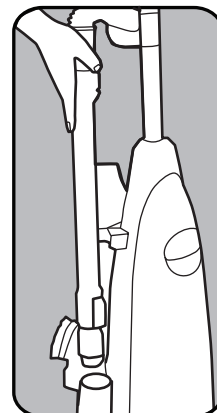

Fig. 1
1. To use the cleaning tools, lift the hose handle straight up from the vacuum (Fig. 1).